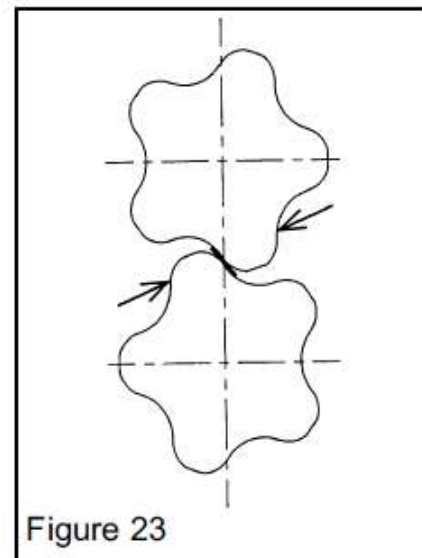
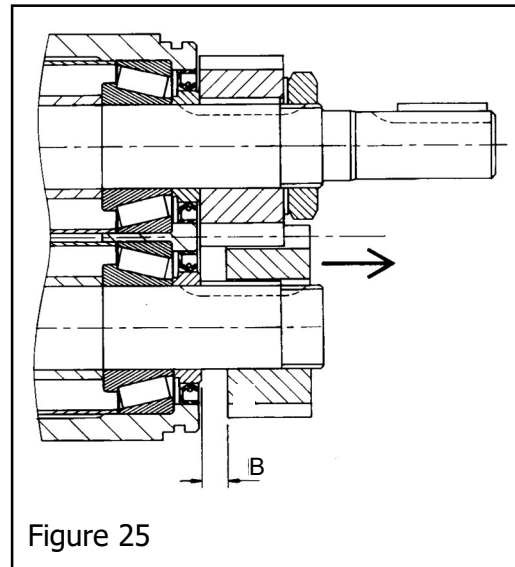
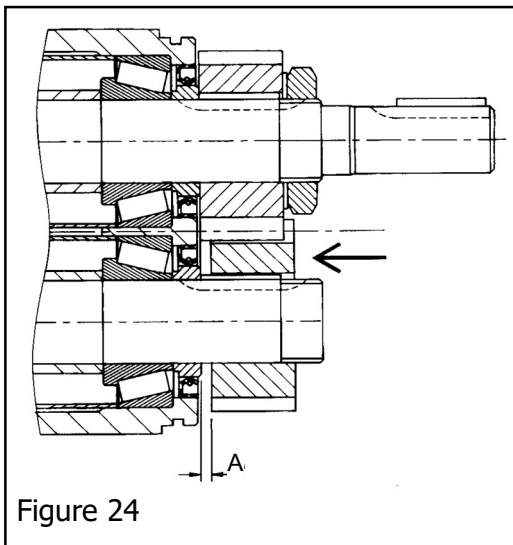

Figure 23
Figure 25
Figure 24
b) Pinch a 0.15mm (0.006 inch) feeler blade between two lobes - see Figure 23.
c) Push both gears forward. If both gears contact their gear spacers, fit tab washers (11) and nuts (12) to both shafts, then continue from (d) below.
If one gear leaves a gap "A" - see Figure 24 - measure this gap with feeler gauges. Fit tab washer (11) and nut (12) to the other shaft, hand tight only. Still gripping the feeler between the rotors, pull the loose gear back and measure the gap "B" - see Figure 25.